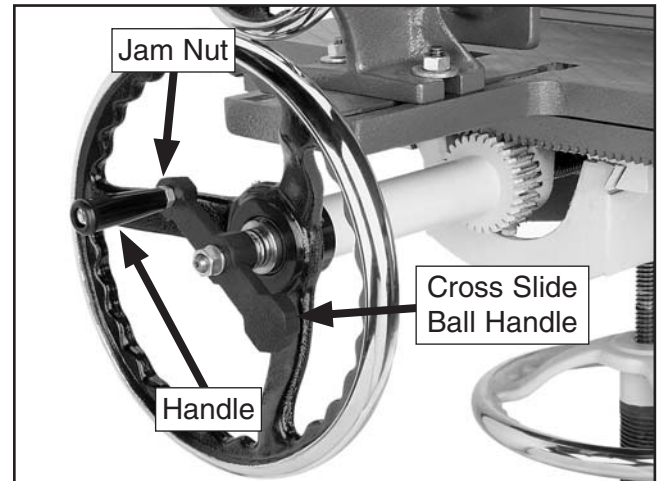

Figure 11. Cross slide handle correctly installed.
4. Remove the handle from the rear of the cross slide ball handle, then re-install it from the front (see **Figure 11**).